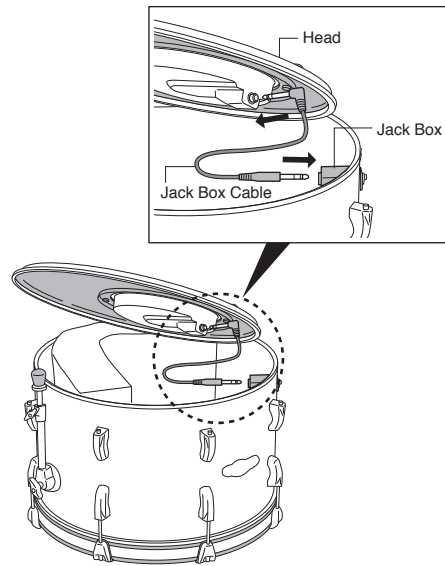

Fig.18
3. Insert the "L" shaped end of the Jack Box Cable into the Tru-Trac Bass Drumhead as shown and insert the other end of the cable into the Jack Box inside the Bass Drum shell as shown (Fig. 18).